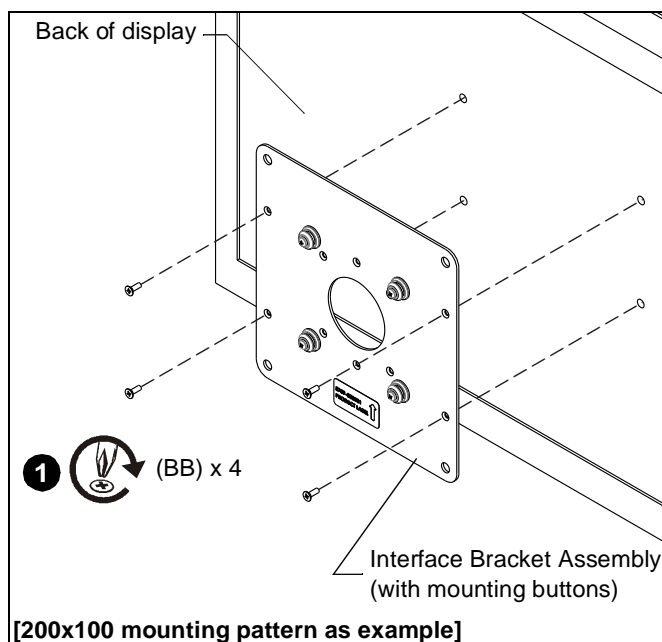

Figure 2
1. Assemble interface bracket assembly (with mounting buttons) to display using four M4 x 12mm Phillips flat head screws (BB). (See Figure 2)